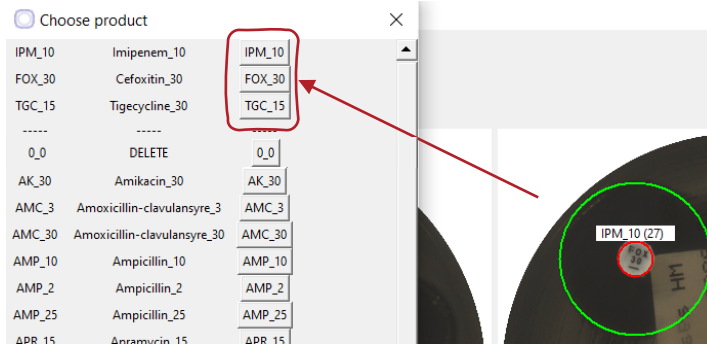
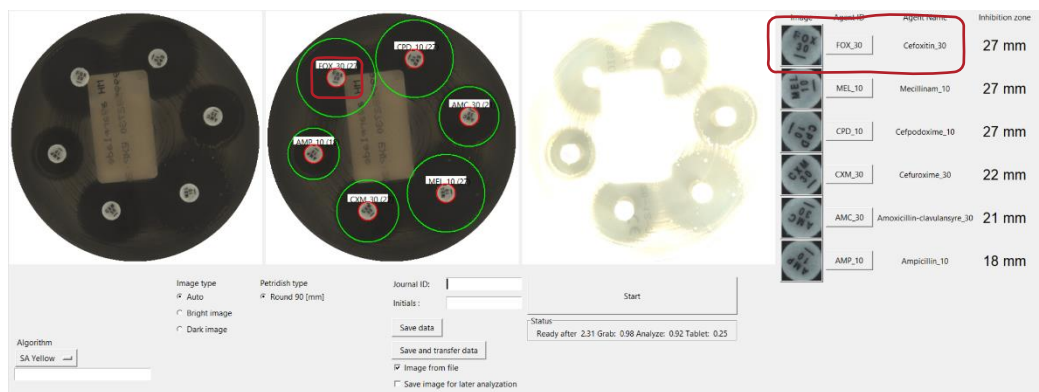

Figure 8 – Change Disc ID
Figure 9 – New Disc ID
6. If the Agent ID is not found or wrong, please click the Agent ID and a list with all known antibiotics are shown, the most likely disc IDs are the top 3 ones, see Figure 8. Click on the right one and the Agent ID and Name will automatically change, see Figure 9.